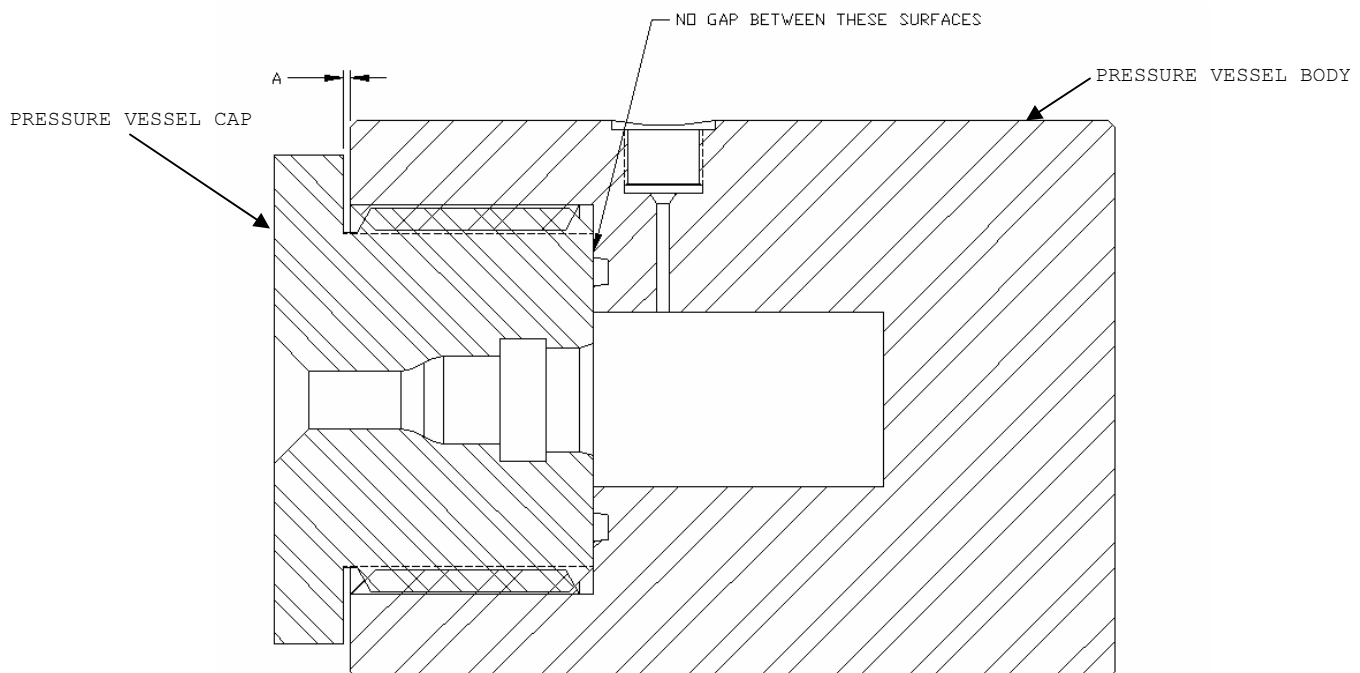

FIGURE 2: VESSEL CAP INSTALLED INTO VESSEL BODY
- 6.9 NUMBER EACH PRESSURE VESSEL BODY 1 - 10. LABEL EACH PRESSURE VESSEL CAP 1 - 10. PAIR UP THE CORRESPONDING PRESSURE VESSEL CAPS AND BODIES (CAP 1 WITH BODY 1, CAP 2 WITH BODY 2, ETC.). REFER TO FIGURE 2 IF IT IS UNCLEAR AS TO WHICH COMPONENT IS THE PRESSURE VESSEL CAP AND WHICH COMPONENT IS THE PRESSURE VESSEL BODY.
- 6.10 INSTALL EACH VESSEL CAP INTO ITS CORRESPONDING VESSEL BODY UNTIL IT IS FULLY SEATED. REFER TO FIGURE 2 FOR GUIDANCE TO ENSURE PROPER SEATING.